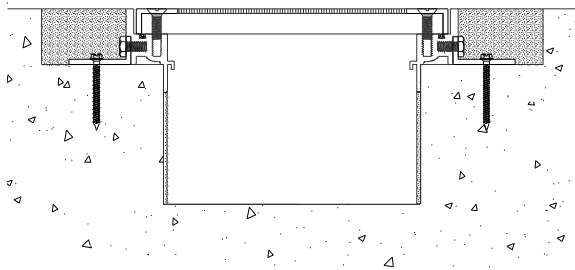

Figure 9
STEP 4. Select a splice bar and place it into position on the frame so that the splice bar traverses the splice and so that the splice is centered behind the splice bar (see Figure 9).